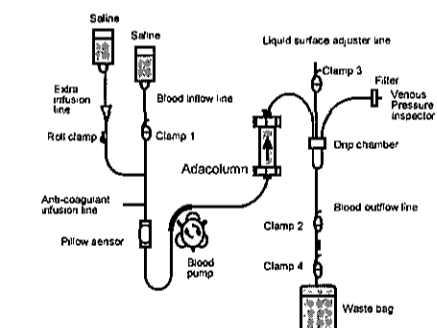

Fig. 2
- 2) Remove the cap from the red-colored end of Adacolumn and connect the blood inflow line firmly to the Adacolumn. Place Adacolumn into the column holder the way that the red connection is facing downward. Remove the cap on the blue-colored exit of Adacolumn and connect the blood outflow line (Fig. 2).